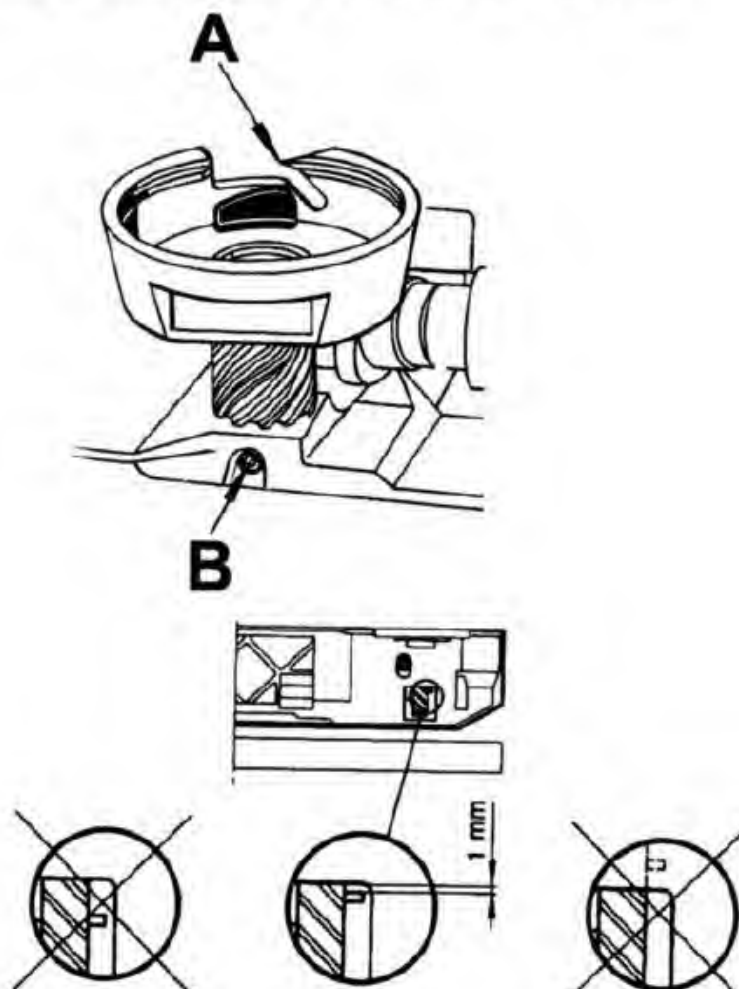

Fig 2
2. Set the tip of hook (A) so is centred behind the needle, the tap of the worm gear should now be positioned according to fig. 2
1. When the two taps of the worm gear are positioned according to fig. 2 the tip (A) of the hook should point straight backwards.